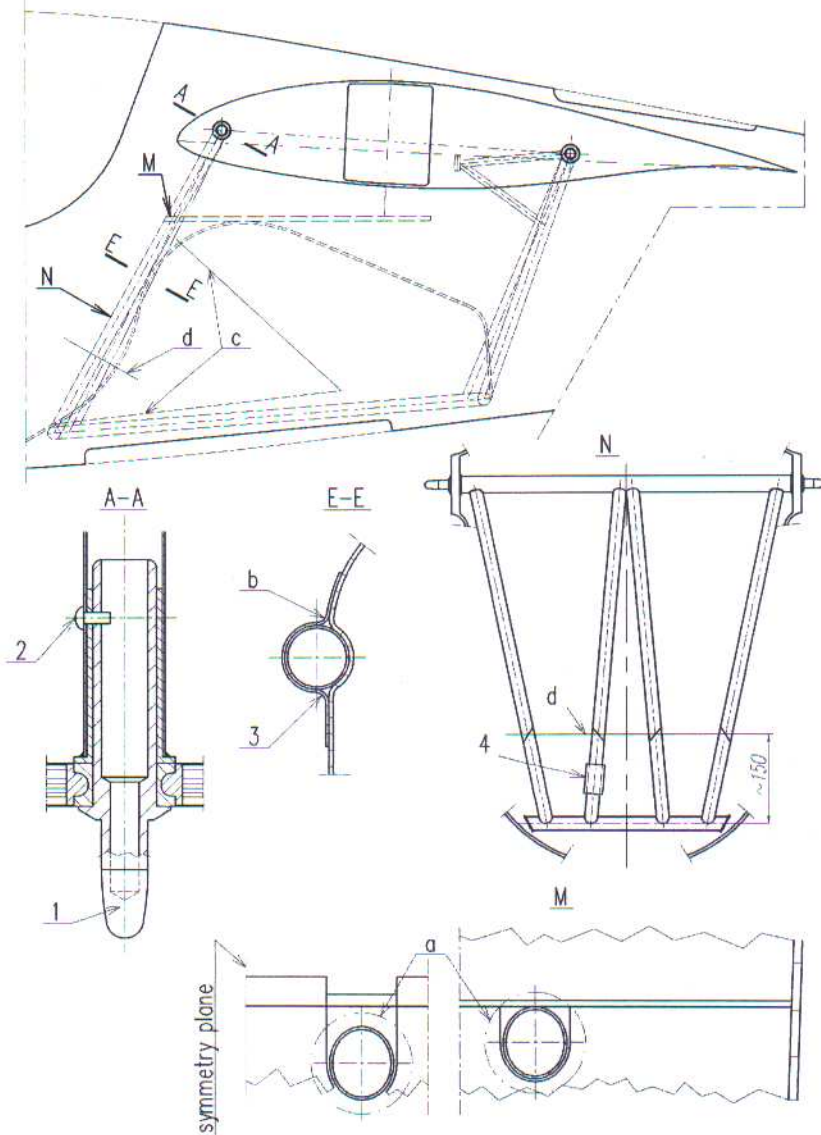

Fig.2.
- 3.4. The composition from area (a) – Fig.2, detail M – is to be removed.
- 3.5. Straps (3) – made of 1x92110 fabric – are to be cut in the corners (b) of the landing gear box – Fig.2, section E-E.
- 3.6. For make welding easier, landing gear box is to be cut along (c) line – Fig.2.
- 3.7. The 4 diagonal tubes of the frame are to be cut at level (d) with angle  $\sim 45^\circ$  – Fig.2.
- 3.8. The rivets (2) – Fig.2, section A-A – are to be drilled from head side with  $\varnothing 4$ mm drill.
- 3.9. The pivots (1) – Fig.2 – are to be removed from the frame. The pivots are settled by H7/k5 fit, therefore adequate force is required to be used. In case of damage, the damaged pivot is to be replaced by a new one from the kit.
- 3.16. Holes  $\varnothing 3,9$ mm for rivets (2) – Fig.2 – are to be drilled. Inner surface of the tube is to be preserved by anti-corrosive fluid by rivet holes. Steel rivets  $\varnothing 4$ mm are to be driven into holes.
- 3.21. In the control table (4) – Fig.2. – a letter "R" is to be marked permanently, the control table is to be remounted by 2 AL blind rivets.